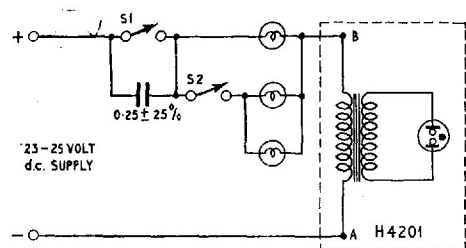

Fig. 1. Typical test circuit diagram
4. Connect the indicator through a lamp load comprising three 24V, 20W lamps (*fig. 1*) by closing S2. Switch on the supply and interrupt the primary circuit (either manually or automatically) approximately 40 times per minute with switch S1. Check that the indicator lamp flashes on each make or break of S1. Open S2 and check that the indicator lamp operates correctly with a single lamp load.